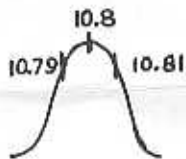

Figure 2
5. Adjust T3 and T4 top and bottom for maximum output and best symmetry. See Fig. 2.